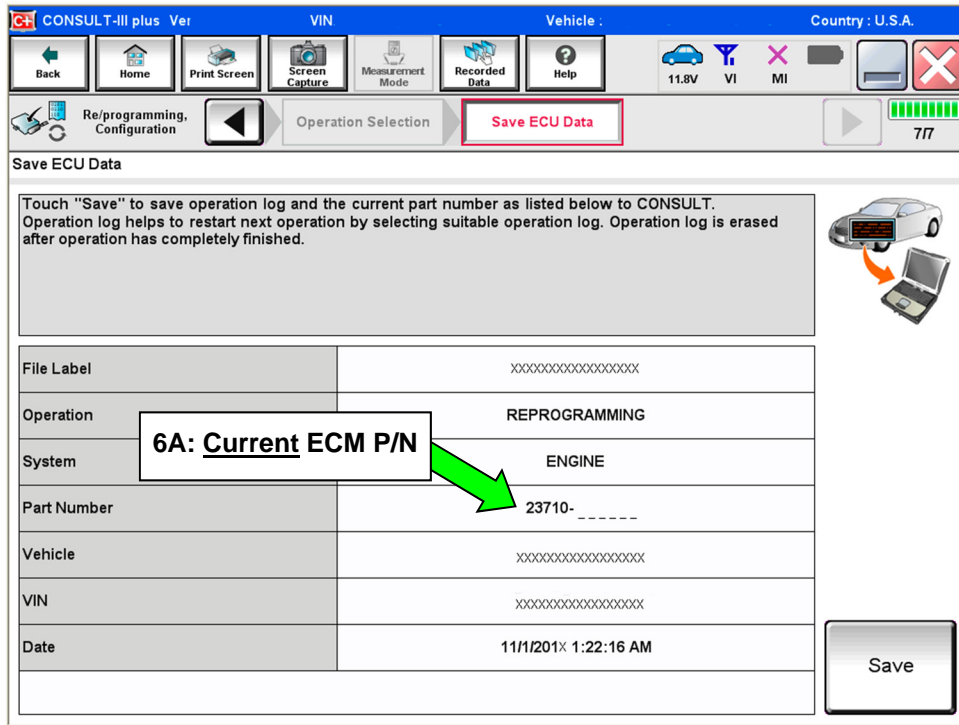

Figure 2
5. Follow the on-screen instructions and navigate the C-III plus to the screen shown in Figure 2 on the next page.
6. When the screen in Figure 2 displays, confirm this bulletin applies as follows.